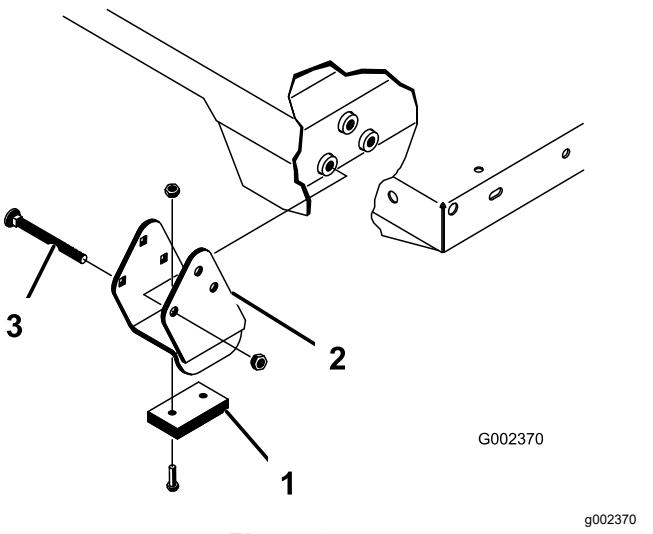

Figure 24
2. Carefully set the bed onto the machine frame, aligning the rear bed pivot-plate holes with the holes in the rear frame channel, and install the 2 clevis pins and lynch pins (Figure 24).
4. Insert the clevis pin from outside of the bed with the lynch pin oriented toward the outside (Figure 24).
Ensure that the spacer brackets and wear blocks (Figure 24) are installed with the carriage-bolt heads positioned inside the machine.